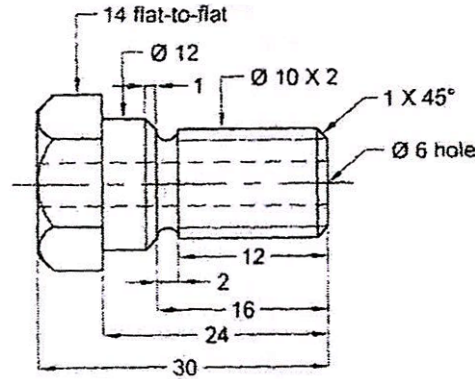

Fig. 2 Hollow hexagonal headed mild steel bolt
16. a) 2500 pieces of hollow hexagonal headed mild steel bolts as shown in Fig. 2 are to be produced by machining. Select a suitable lathe and blank for machining. Identify and list the various elementary machining operations involved. Prepare an operation chart indicating tools, tool positions and the machining conditions. Also, draw a tool layout for machining the given job in an appropriate lathe machine.